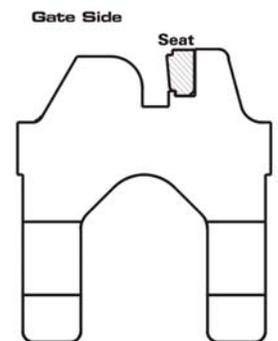

Figure 3—Seat
- a. Note the gate side and body side of the seat as shown in Figure 3.
1. Reassemble the gate (A3) in the body, with the beveled edge facing away from the resilient seat. See Figure 3.